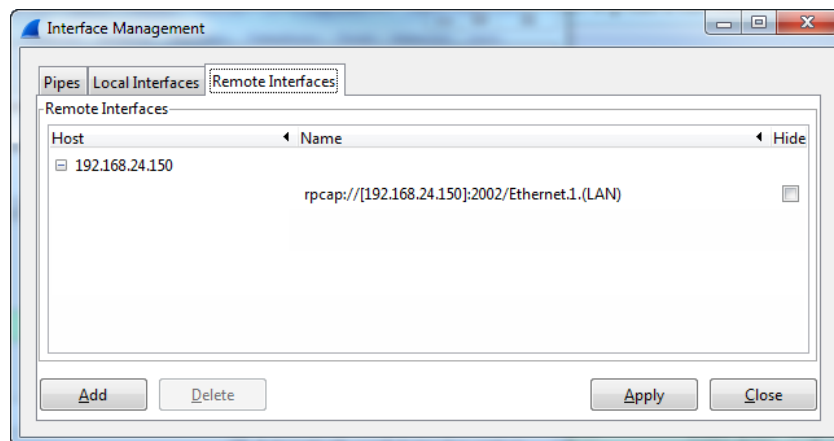

Figure 159: Added new interface to Wireshark.
7. If the connection to the device was established successfully, the **Remote Interfaces** list will be updated with information about all capture ports available on the device as shown in Figure 159.